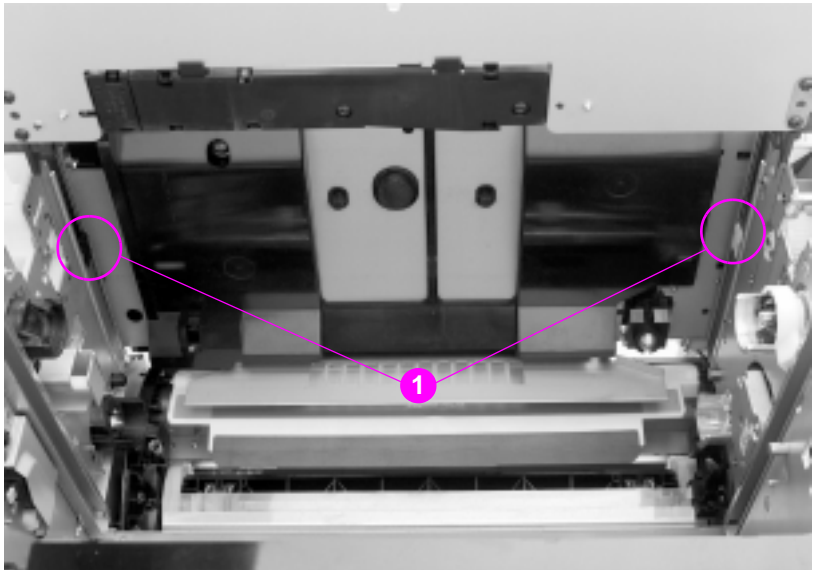

Figure 6-21 Upper front drawer assembly removal and replacement (2 of 2)
- 11 Use a small, flat-blade screwdriver to lift the tabs shown in Figure 6-21 inside the drum drawer guide rails while pulling each side of the drawer until it is free.